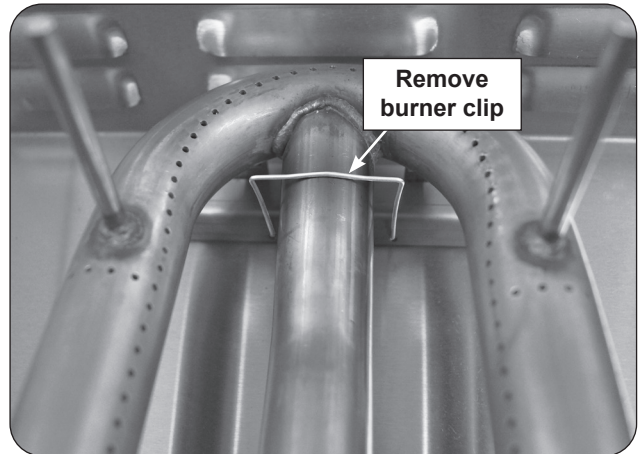

Fig. 40-1 Main burner removal
2. Locate the burner clip (located over the rear center tube of the burner) and slightly pinch and remove the clip from the burner support. See Fig. 40-1.